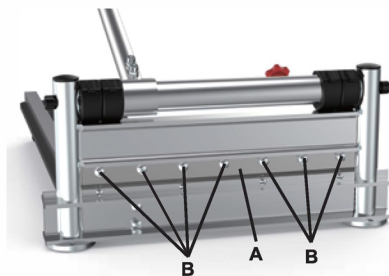

FIGURE 8
1. To remove the blade (Fig. 8-A), remove the seven allen head screws (Fig. 8-B) using the supplied hex key. Carefully remove the blade.